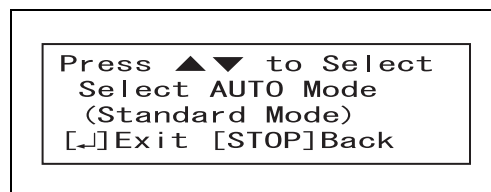

Figure 7.28
- 4 The LCD displays the screen as shown in Figure 7.28. Select the Immediate Mode by operating the ▲ and ▼ buttons if 15 minutes have not passed after removal of the endoscope from the body. Select the Standard Mode by operating the ▲ and ▼ buttons if more than 15 minutes have passed after removal of the endoscope from the body.